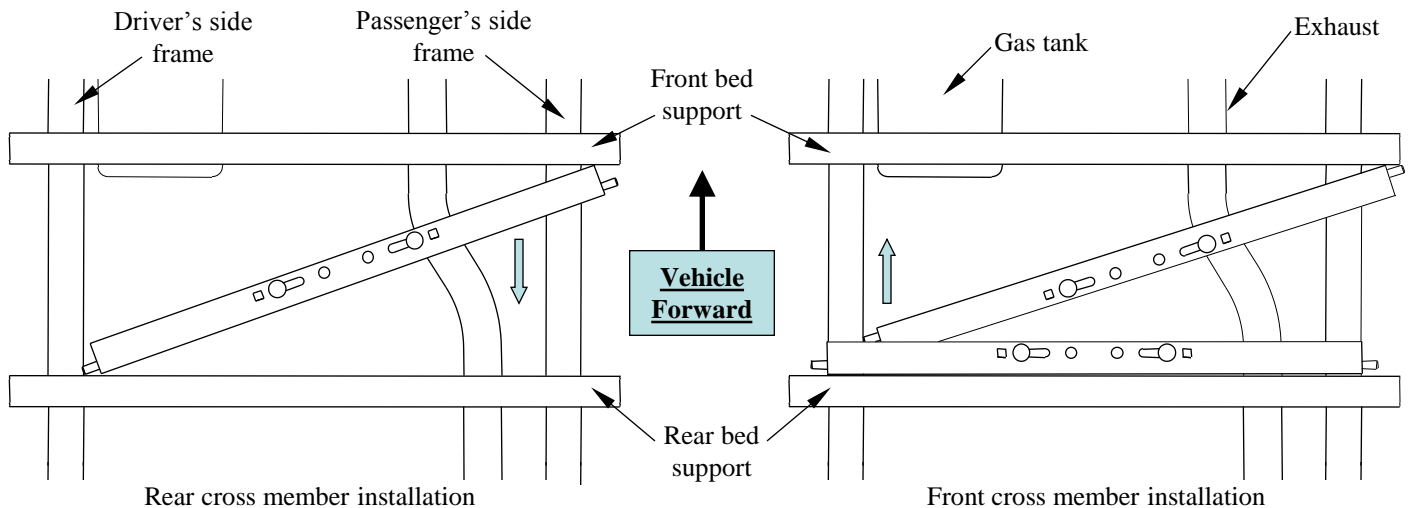

Figure 2
3. **Note:** To install the cross members it may be necessary to lower the exhaust. From underneath the vehicle, install the **rear** hitch cross member by placing the right end over the exhaust and the vehicle frame, and maneuvering the left end over the frame. Once both ends of the cross member are over the frame, slide it back against the rear bed support (see Figure 2). The forward and rearward cross members are the same.